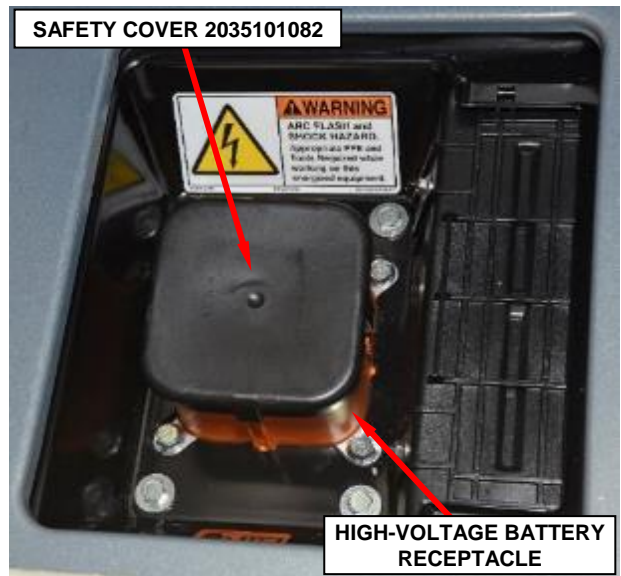

Figure 10 – High-Voltage Battery Receptacle Safety Cover
15. Cap the receptacle on the high-voltage battery with safety cover 2035101082 to prevent foreign objects from entering the receptacle (Figure 10).
34. Remove the safety cover from the high-voltage battery receptacle (Figure 10).